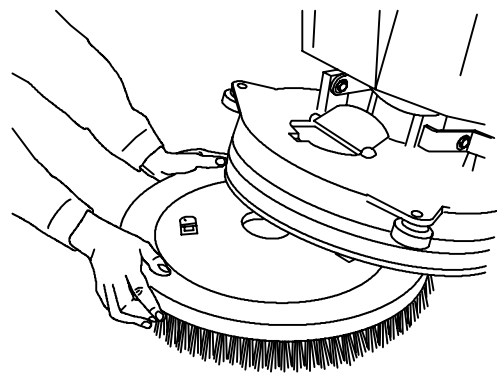

FIG. 60
5. Remove and clean pads or brushes. Never use soiled pads when cleaning. Rotate pad or replace when worn (Figure 60).